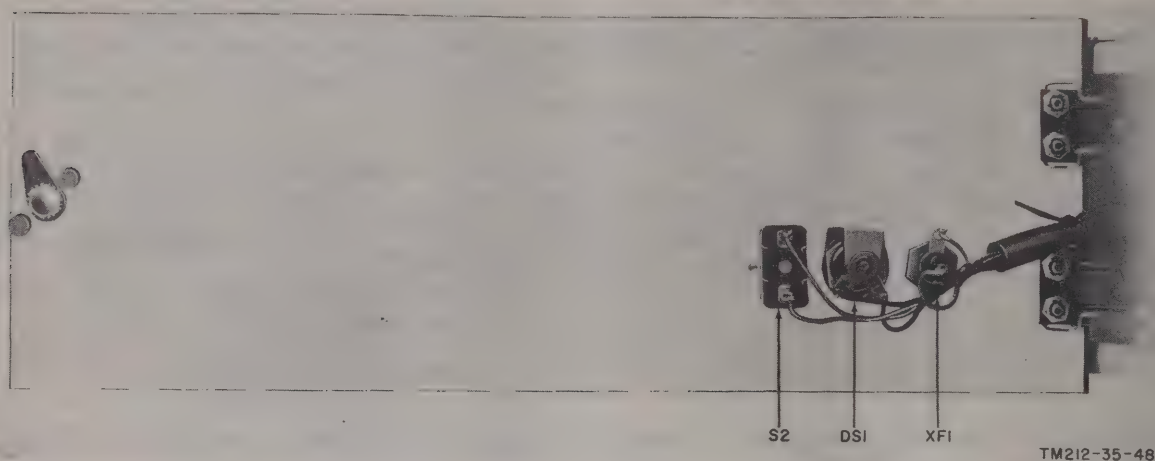

Figure 45. Telephone Signal Converter CV-542/TRC-47, panel, location of components.
*a. General.* Procedures are outlined in the following chart for localizing troubles to a specific section of the converter, and for localizing troubles to a stage within a section. Location of parts is found in figures 45, 46, and 47. Depending on the nature of the operational symptoms, one or more of the localizing procedures will be necessary. When use of the procedures results in localization of trouble to a particular stage, use the techniques outlined in paragraph 60 to isolate the trouble to a particular part.
*b. Use of Chart.* The troubleshooting chart is designed to supplement the operational checks detailed in the equipment performance checklist (TM 11-212-20) and the interunit sectionalization checks described in paragraph 46. If no operational symptoms are known, begin with item 1 of the equipment performance checklist (TM 11-212-20) and proceed until trouble is located.